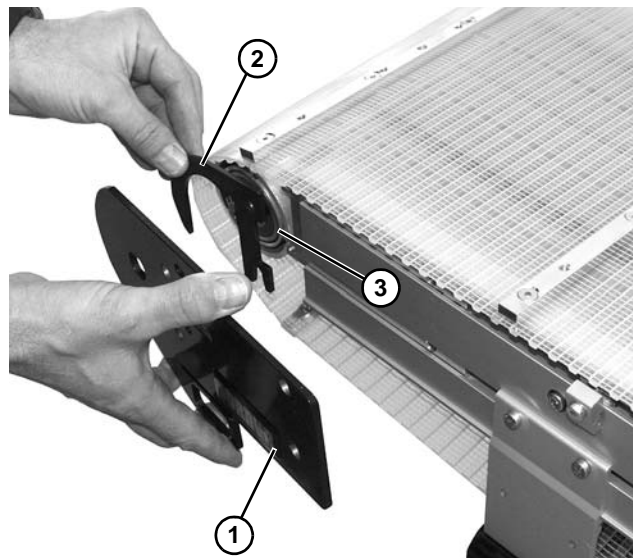

Figure 33
4. Pull back the outer headplate (**Figure 33, item 1**) and remove the inner spacer (**Figure 33, item 2**).
5. Slide the idler pulley assembly (**Figure 33, item 3**) out of the headplate on the opposite side.